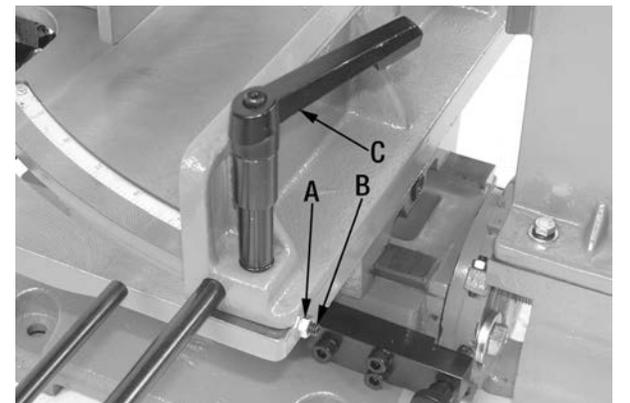

FIGURE 20
When the chisel is tightened in the machine, it must be square to the travel of the table and the fence. First you must make sure the fence is set parallel to the travel of the table, the easiest way to achieve this is to measure from the front edge of the table to both ends of the fence. If an adjustment to the fence position is necessary, loosen hex. nut (A) Fig.20 and loosen the set screw (B). Position the table perfectly parallel with the front edge of the sliding table and lock the fence lock handles (C). Adjust set screw (B) up against the fence and tighten hex. nut (A).